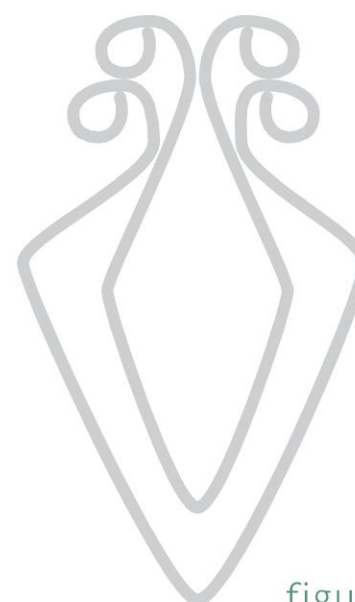

figure 3
- 9 Place the Inner Frame inside the Outer Frame to check the alignment and bends of your frames. Make adjustments as necessary (Figure 3).